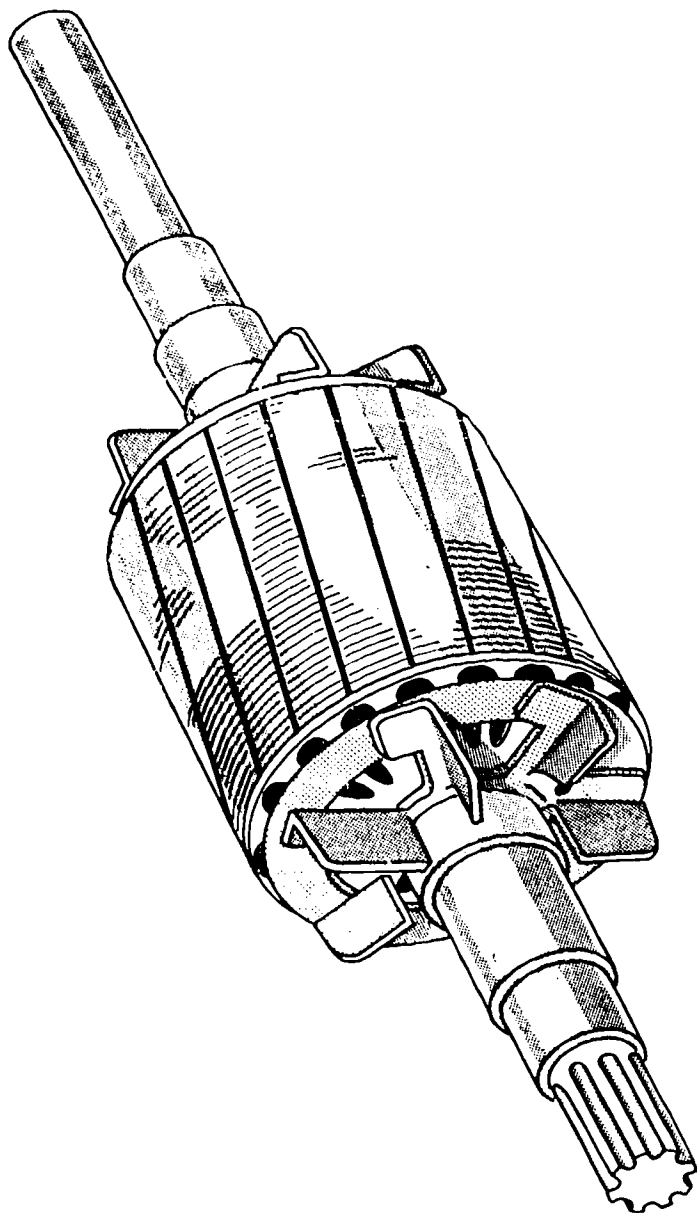

Figure 1-5. Squirrel-cage rotor.
a. **Squirrel-cage rotor.** The squirrel-cage rotor is made up of a laminated iron core mounted on a spider or framework secured to the shaft. See figure 1-5. Bars of copper, aluminum, or any alloy which is a good conductor, are laid in slots in the core. All the bars are connected to end